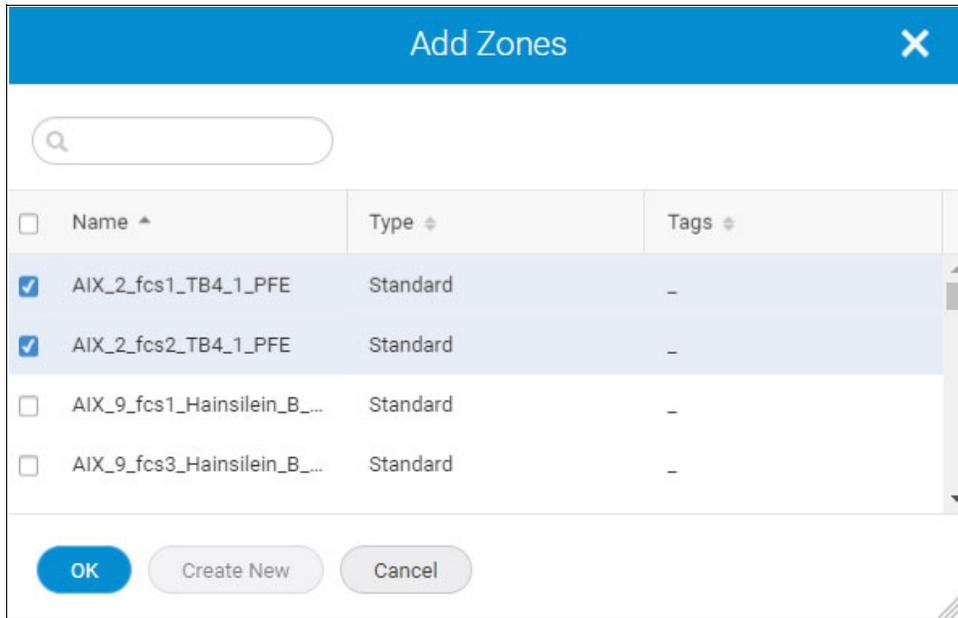

Figure 5-37 Add Zones to a new configuration
5. In the Add Zones dialog box, select one or more zones to add to the configuration or click **Create New** to create a zone and add it to the configuration, as shown in Figure 5-37 on page 141. For more information, see “Creating zones” on page 135.